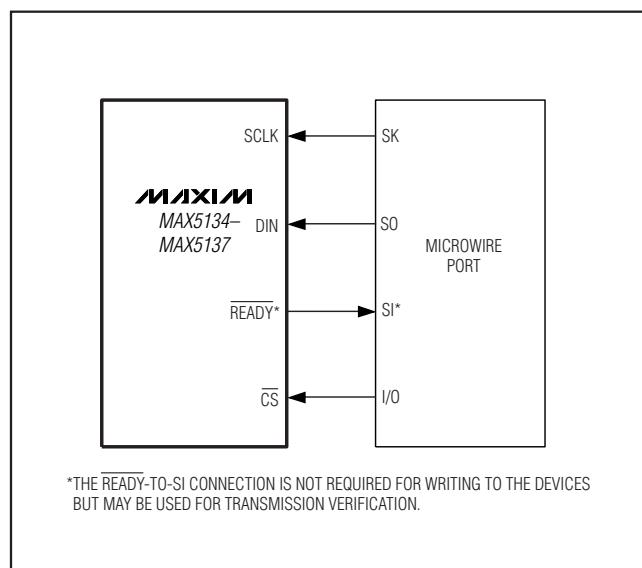

Figure 2. Connections for MICROWIRE
The MAX5134–MAX5137 3-wire serial interface is compatible with MICROWIRE, SPI, QSPI, and DSPs (Figures 2, 3). The interface provides three inputs, SCLK, CS, and DIN and one output, READY. Use READY to verify communication or to daisy-chain multiple devices (see the *READY* section). READY is capable of driving a 20pF load with a 30ns (max) delay from the falling edge of SCLK. The chip-select input (CS) frames the serial data loading at DIN. Following a chip-select input's high-to-low transition, the data is shifted synchronously and latched into the input register on each falling edge of the serial-clock input (SCLK). Each serial word is 24 bits. The first 8 bits are the control word followed by 16 data bits (MSB first), as shown in Table 1. The serial input register transfers its contents to the input registers after loading 24 bits of data. To initiate a new data transfer, drive CS high, keep CS high for a minimum of 33ns before the next write sequence. The SCLK can be either high or low between CS write pulses. Figure 1 shows the timing diagram for the complete 3-wire serial-interface transmission.